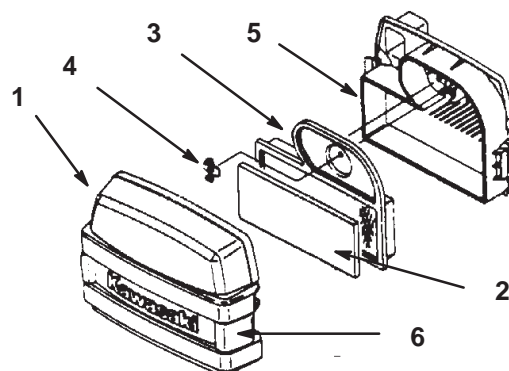

Figure 34
2. Clean around the air cleaner to prevent dirt from getting into the engine and causing damage. Unlatch two side latches and remove the air cleaner cover (Fig. 34).
3. Carefully remove the foam element from the paper element (Fig. 34).
4. Unscrew the wing nut and remove the paper element (Fig. 34).
1. Carefully slide the foam element into the paper air cleaner element (Fig. 34).
2. Place the air cleaner assembly onto the air cleaner base and install wing nut (Fig. 34).
3. Install the air cleaner cover and latch (Fig. 34).